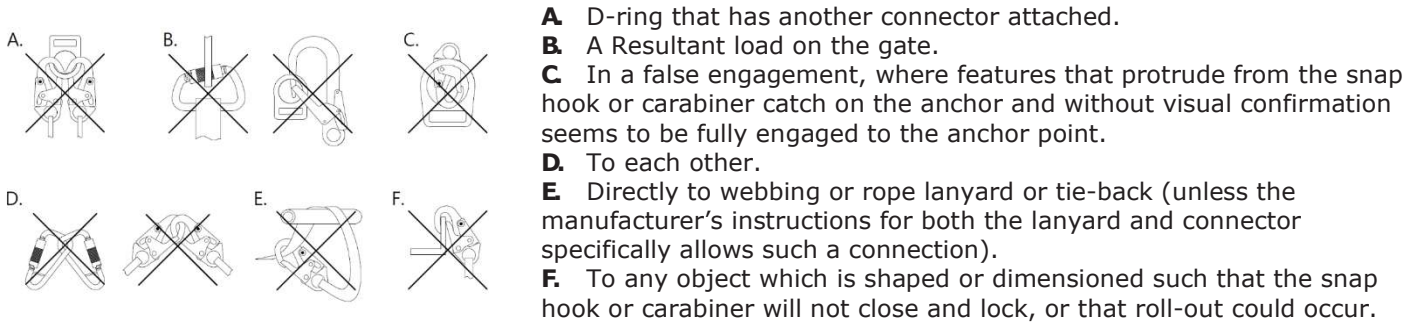

Figure3 - Inappropriate Connections
- D.1 COMPATIBILITY OF CONNECTORS:** As required by ANSI Z359.12, OSHA, and CSA Z259.12, only use suitable self-locking snap hooks and carabiners with this equipment. Ensure all connections are compatible in size, shape and strength before using. **Do not use equipment that is not compatible.** Connectors are compatible when they work together in such a way that their sizes and shapes do not cause gate mechanisms to unintentionally open. Always ensure connectors are fully closed and locked before using them. See Figure 3 for illustration of inappropriate connections of snap hooks and carabiners. Connectors must be capable of supporting at least 5,000 lbs (23 kN). Connectors must be compatible with the